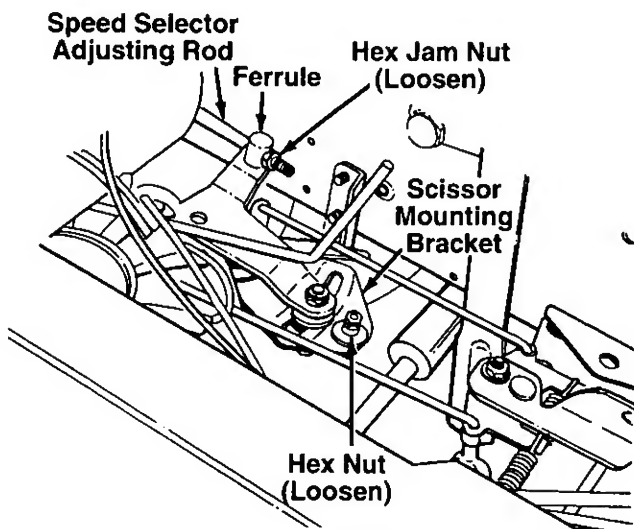

FIGURE 17.
3. Loosen the hex jam nut on the speed selector adjusting rod. See figure 17.